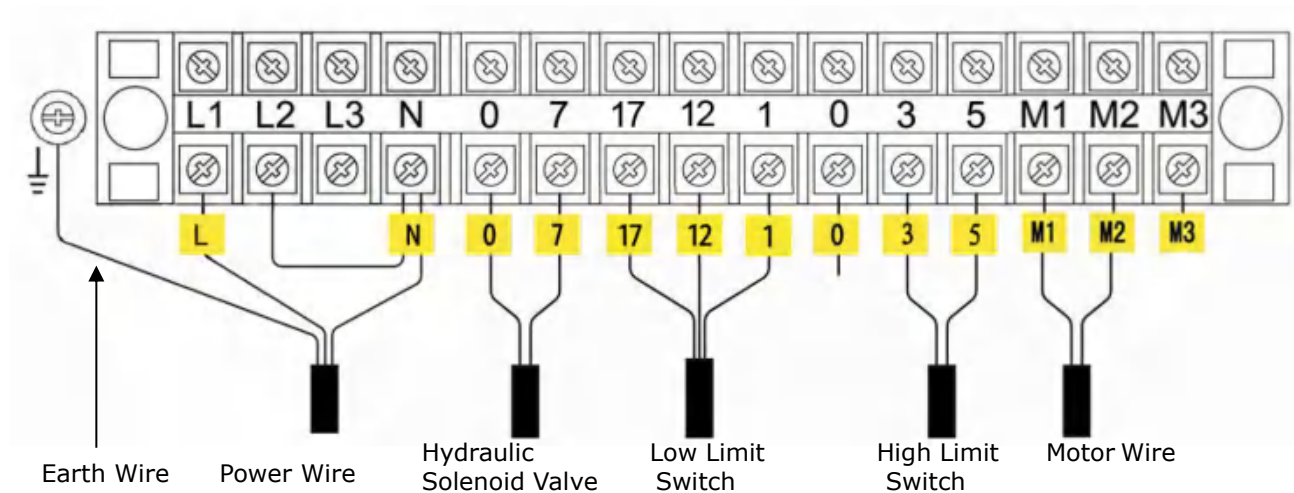

Fig. 27
1.1 Connect the power wire and limit switch wire according to the Wiring diagram (See Fig. 27)